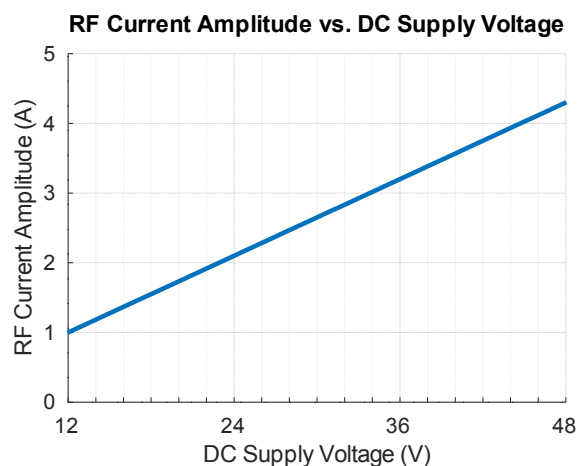

Figure 13: Test conditions: standard loop.
- 1 The RF current and magnetic field strength are proportional to the input DC voltage (Fig. 13). The provided power supply outputs 48V.